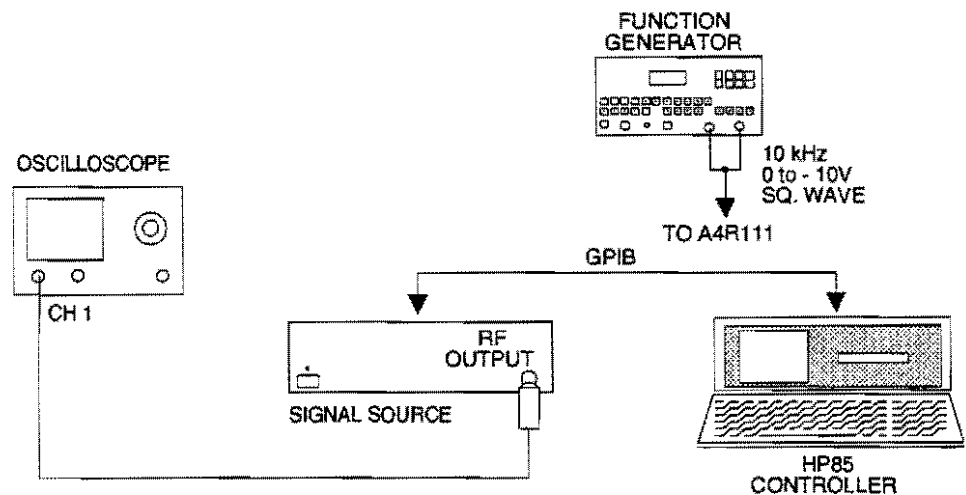

Figure 10-19. Test Equipment Setup for ALC Loop Confidence Test
- Step 1.** Set up the test equipment as shown in Figure 10-19.